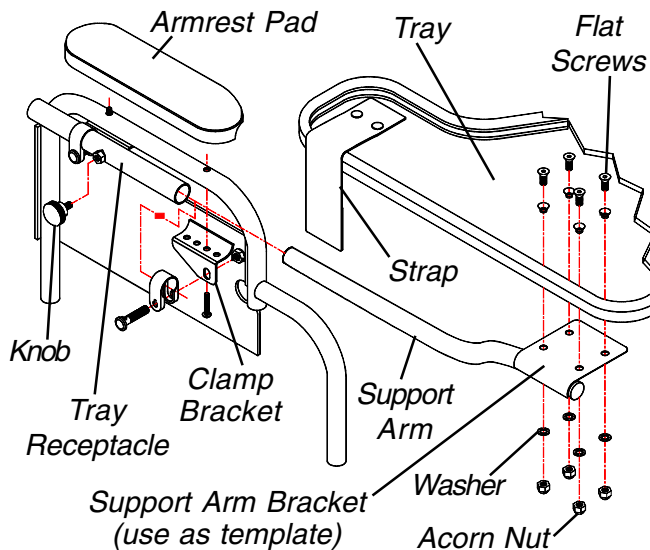

FIGURE 1 - INSTALLATION
### INSTALLATION (FIGURE 1)
3. Adjust the clamp brackets on the tray receptacle so that one (1) of the four (4) holes on each clamp bracket line up with one (1) armrest hole.
4. Secure the armrest pad and tray receptacle assembly to the armrest with the previously removed screws as shown in FIGURE 1.
8. With a pen locate and mark the four (4) drill points on the tray by using the support arm bracket as a template.
9. Using a 1/4" drillbit, drill four (4) holes corresponding to the marks made with the pen.